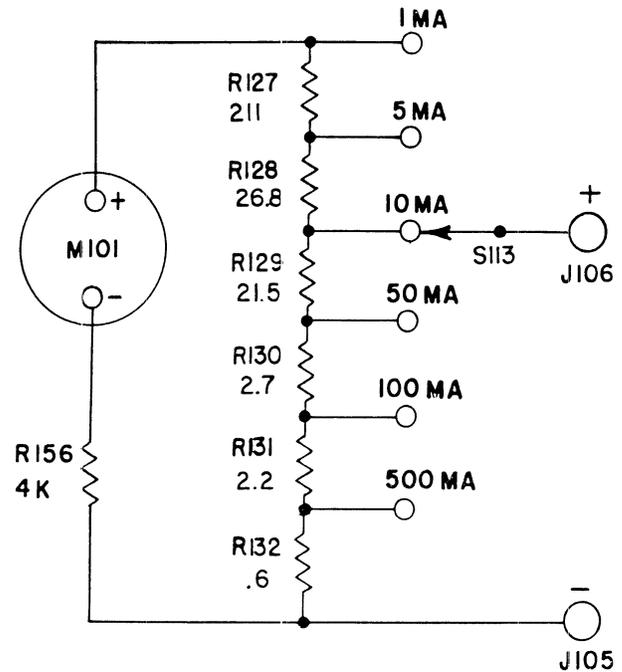

Figure 2-14. Simplified Milliammeter Circuit
d. MILLIAMPERES (See Figure 2-14)
- When the FUNCTION selector switch is turned to the MILS position the basic circuit illustrated by Figure 2-14 is set up. Meter M-101 in series with resistor R-156 is paralleled by the series of calibrated resistors R-127 through R-132.